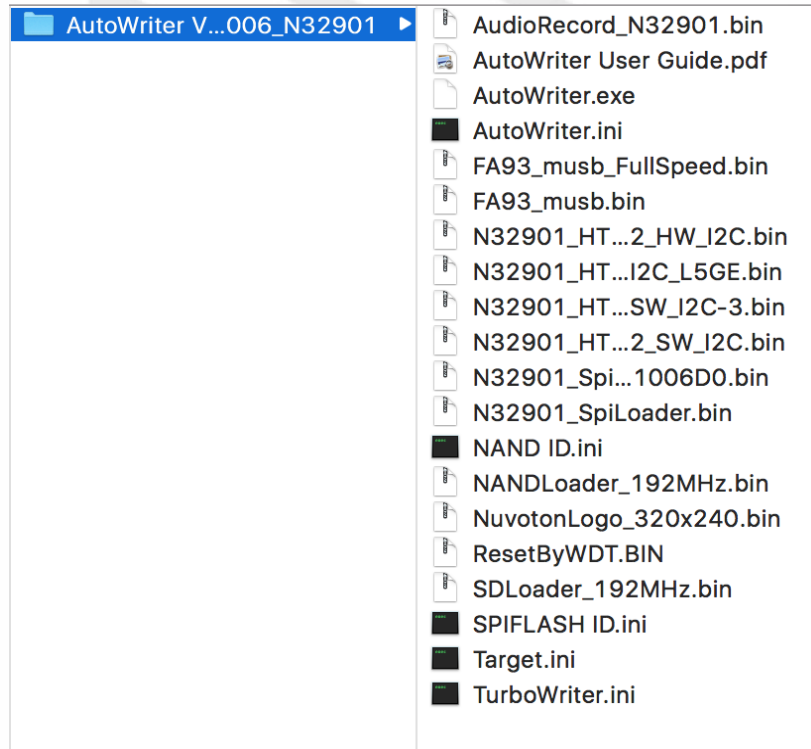

Figure 4 The AutoWriter folder
- 1) Copy the new FW binary file into the AutoWriter folder. The content of AutoWriter folder is similar Figure 4 as shown below.